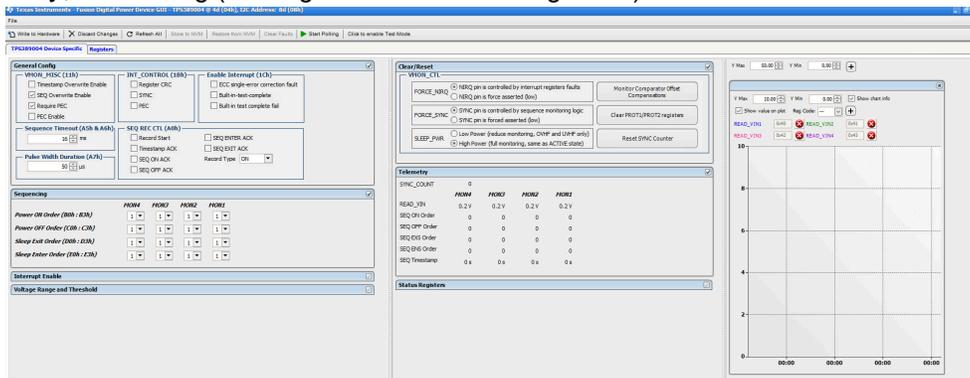
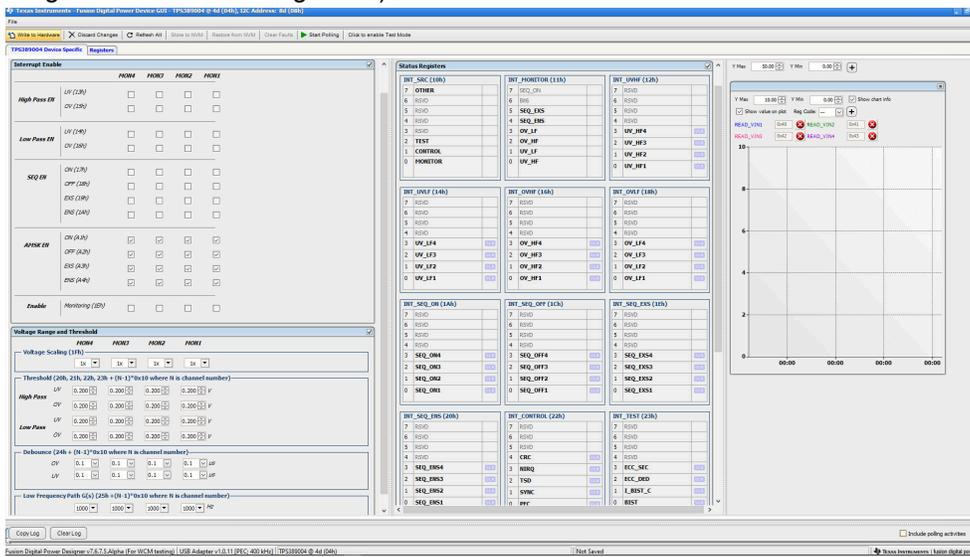
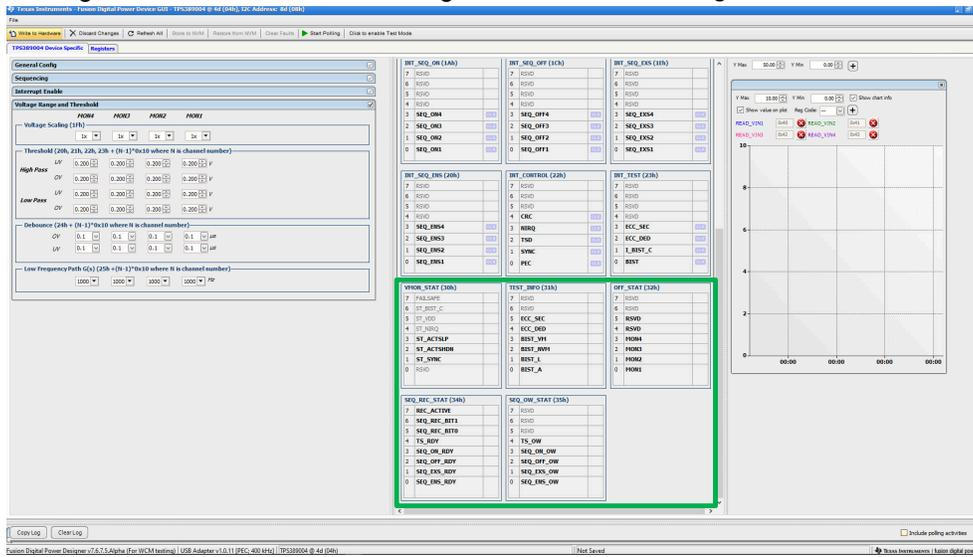

Figure 3-12. Fusion Digital Power Device GUI - TPS389C0XEVM (Image #1)
Figure 3-13. Fusion Digital Power Device GUI - TPS389C0XEVM (Image #2)
Figure 3-14. Fusion Digital Power Device GUI - TPS389C0XEVM (Image #3)
9. Once the EVM is discovered and *Click to Configure* has been selected, the GUI is similar to Figure 3-12, Figure 3-13, Figure 3-14.